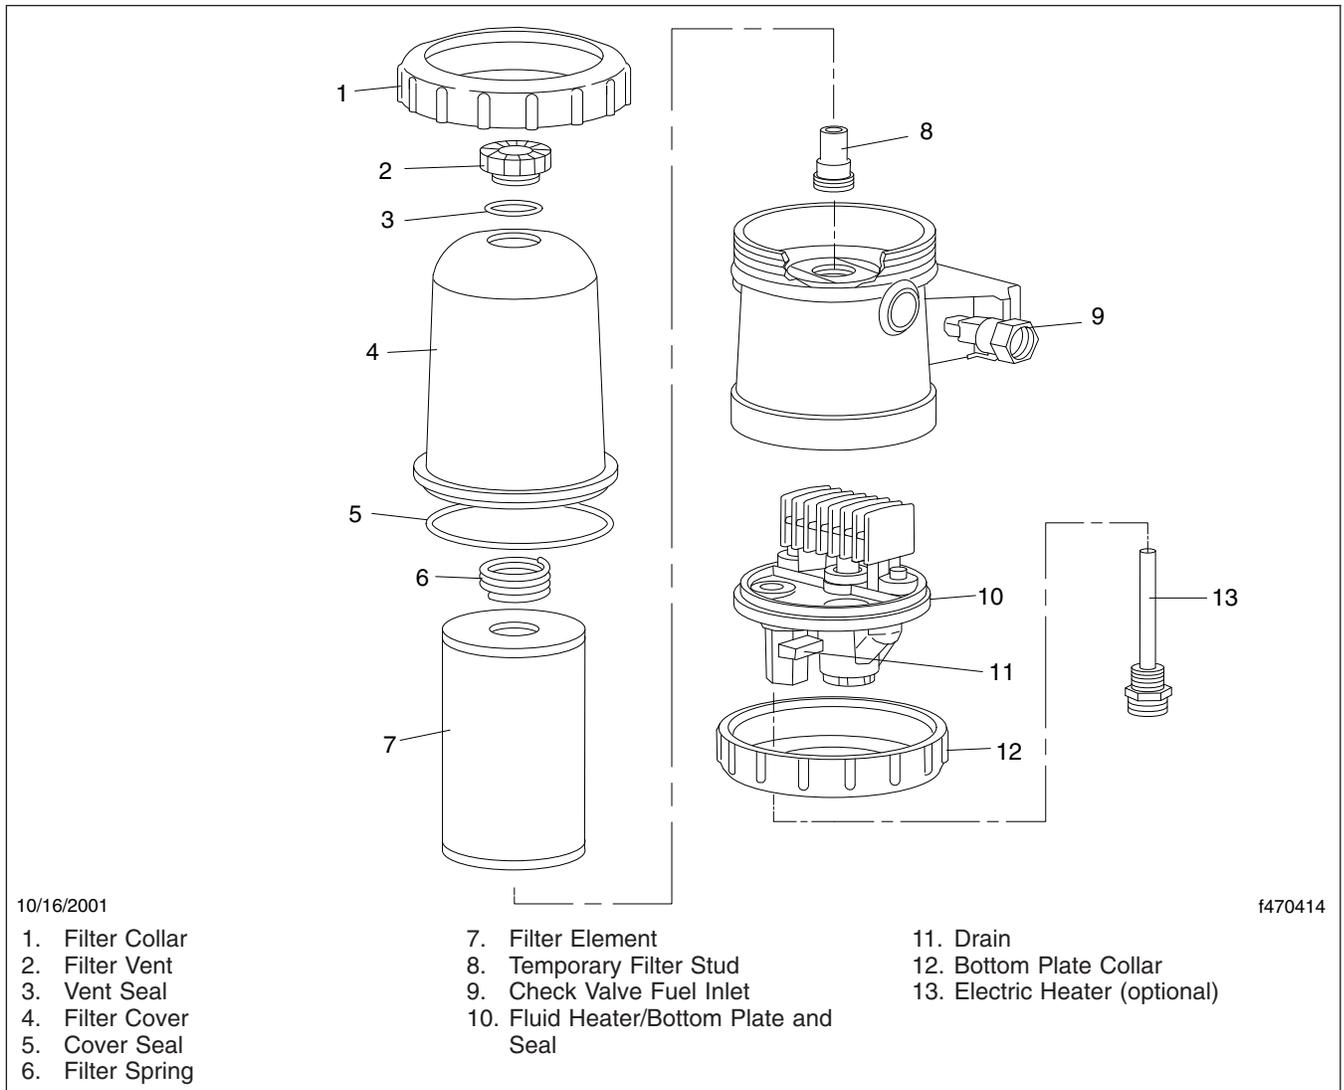

Fig. 2, Davco Fuel Pro 382 (exploded view)
1. Place a suitable drain pan under the fuel/water separator and open the drain valve. Drain enough fuel to empty the filter, then close the drain valve. See Fig. 2.